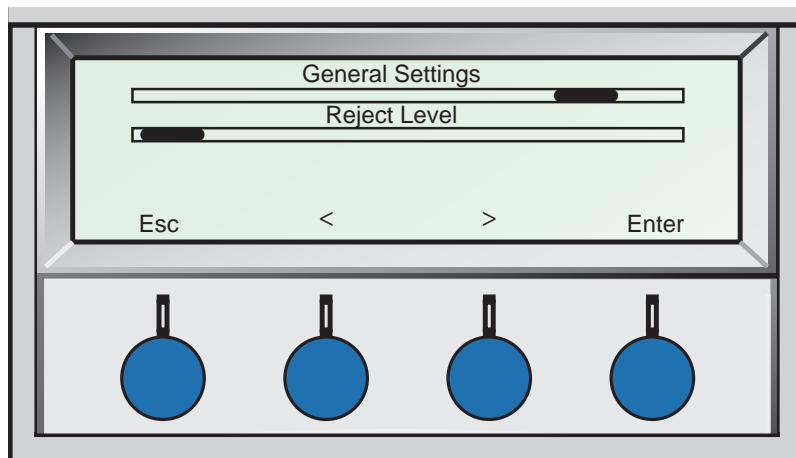

Figure 20 Reject Level.
- Adjust leak level = 5×10^0 (5ppm), see Figure 20. Make a measurement on 10 ppm calibration gas.